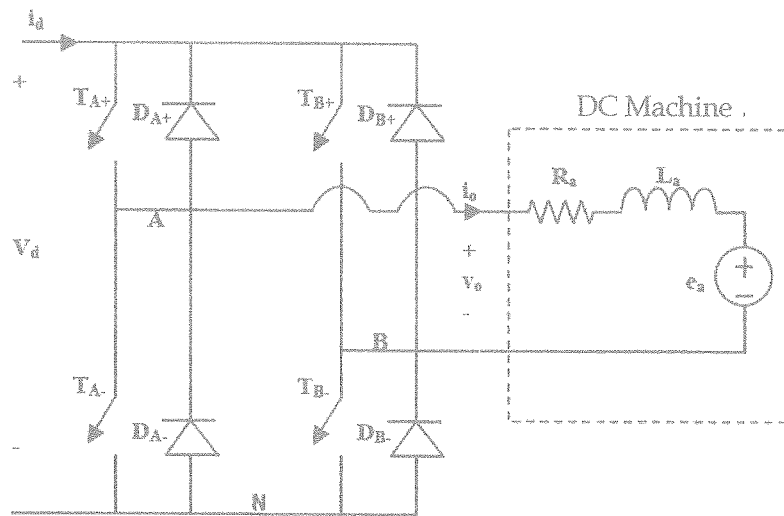

Figure Q5: Full bridge converter
- b) A full bridge converter is shown in Figure Q5. $V_d = 30$ V. Switching frequency is 30 kHz. The bridge is controlled to provide an average output voltage $V_o = 200$ V. Bipolar PWM technique is used.